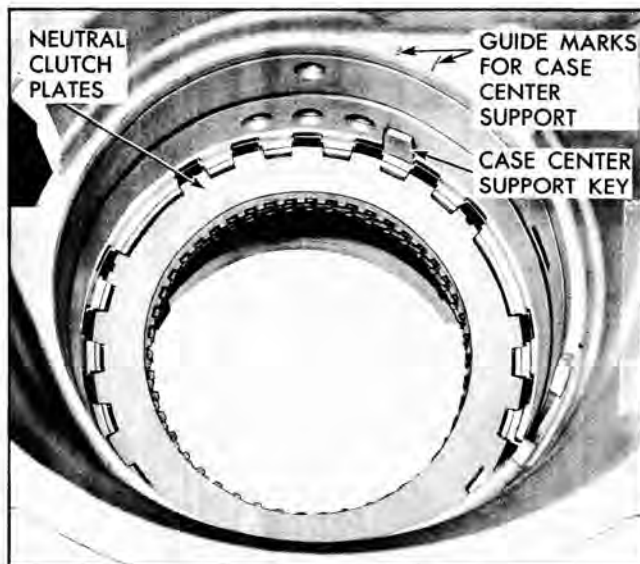

Fig. 114 Neutral Clutch Plates in Case
4. Install long case center support key with longer lip toward front of case. Hold in place with petroleum (Fig. 114).
5. Mark the case to indicate sides of the key to assist in alignment for installation of case center support (Fig. 114).